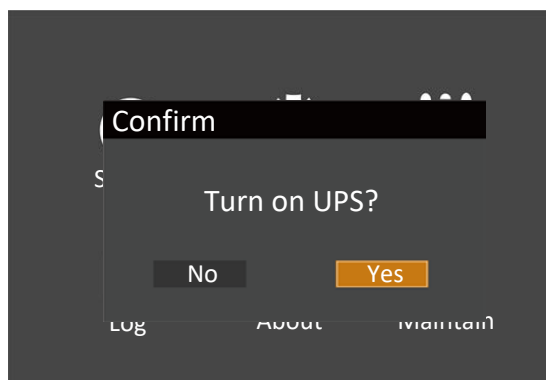

Figure 2-20 Turning on UPS
4. After setting corresponding parameters, press the power button for two seconds, and the LCD prompts a dialogue box shown in Figure 2-20.